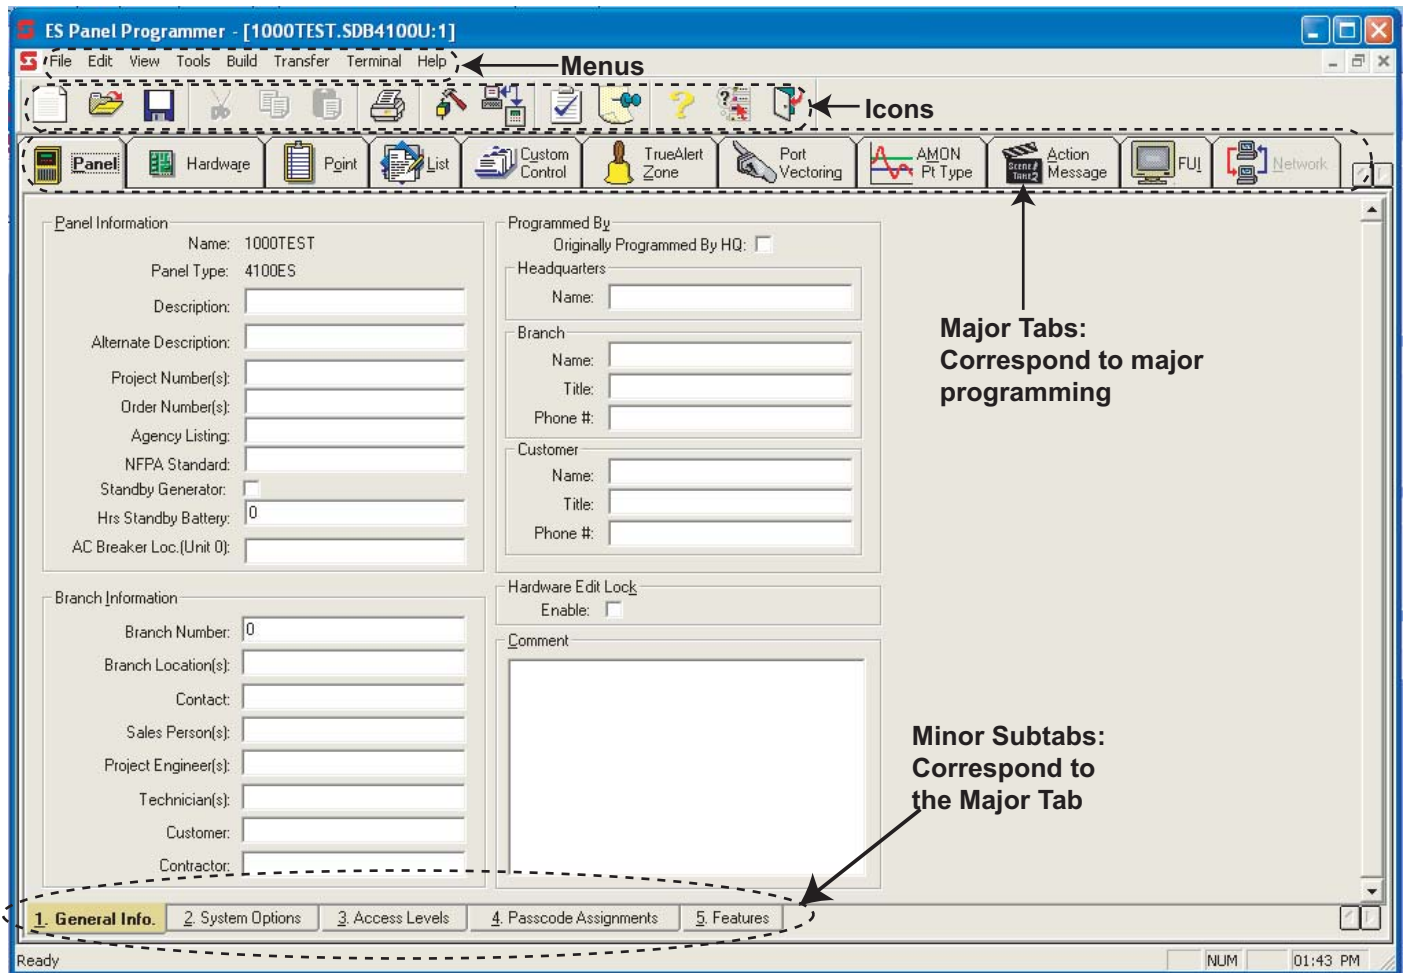

Figure 2-2. Main Programming Screen with Panel Tab Selected
1. Double click on the  **ES Panel Programmer** icon to launch the PC Programmer's installation script. The screen shown in Figure 2-2 appears.